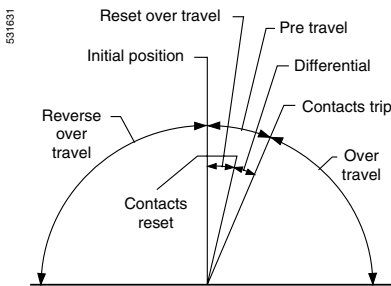

Figure 5—Contact travel
**Overtravel**—The distance that the position switch actuator may move beyond the trip point, (see figure 5) without damage to the switch.